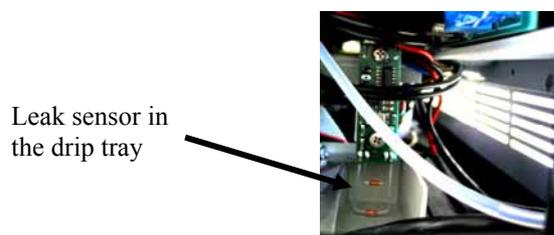

Fig. 44: Leak sensor
3. Dispose of any liquid in the tray and dry the sensor (→ Fig. 44), using lint-free cloth or paper.